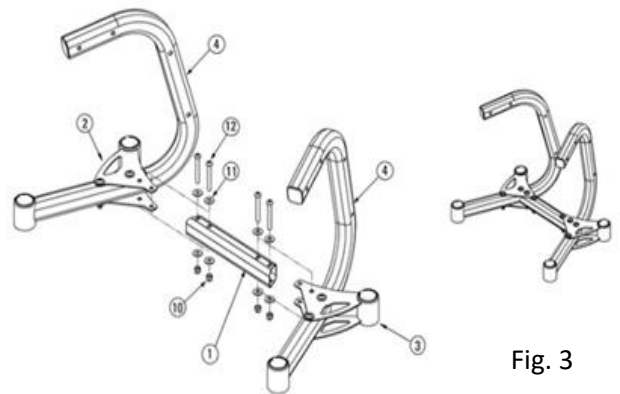

Fig. 3
Attach the bottom cross brace (1) to the rear left stabilizer (2) and rear right stabilizer (3) using the hardware shown in figure 3. Make sure that the narrower edge of the cross brace (1) is closer to the stand leg (4) uprights.